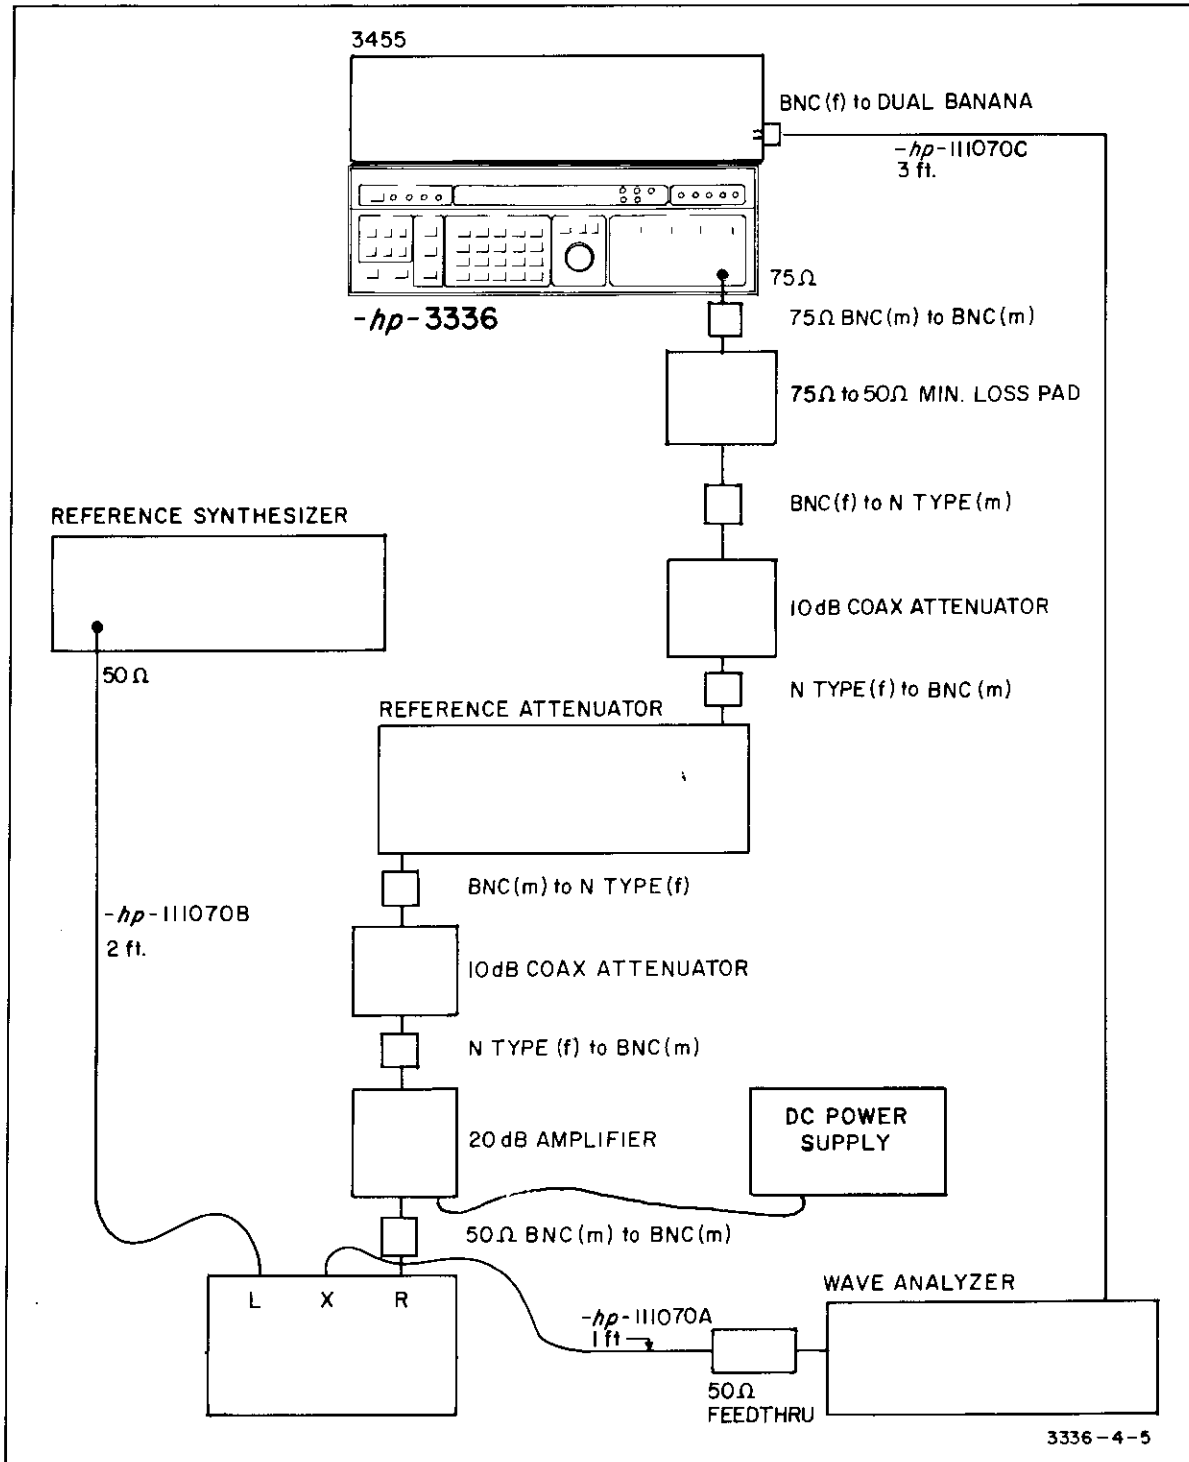

Figure 4-5. Physical Location for Attenuator Accuracy
- (1) BNC (m) to BNC (m) -hp- 1250-1288
- a. Connect the equipment electrically as shown in Figure 4-4 and physically as shown in Figure 4-5.
*The quality of the test results depends upon the equipment arrangement. It is important that the physical location of the instruments be as shown in Figure 4-5. Do not cross cables. Allow the Q-Bit Amplifier 30 minutes to warm-up.*